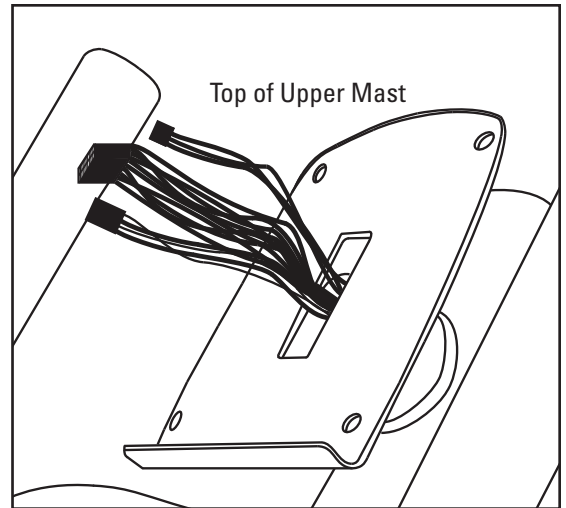

Figure 12
- 7-1** Route the Main cable located at the top of the lower mast through the bottom of the upper mast weldment and exit out the console plate (see Figure 12).